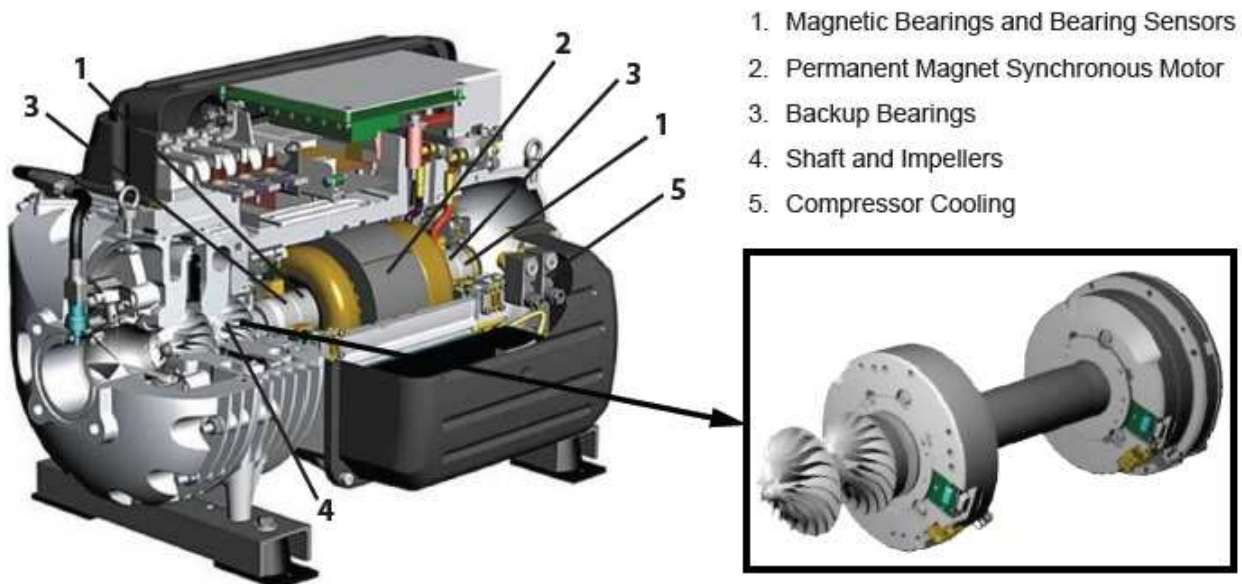

Figure 1 Magnetic bearing compressor
**Oil Free Centrifugal compressor with magnetic bearing.** EWWH-DZ's exceptional efficiency and reliability is due to its cutting-edge permanent magnet motor and magnetic bearing compressor technology. A digitally-controlled magnetic bearing system replaces conventional oil lubricated bearings and a direct drive motor eliminates the need for a lubricated gear box. The compressor shaft, shown in Figure 1, levitates on a magnetic cushion and is the compressor's only major moving component. Sensors at each magnetic bearing provide real-time feedback to the bearing control system. As a result of this sophisticated design, EWWH-DZ Series has many advantages over chillers with traditional centrifugal compressors.